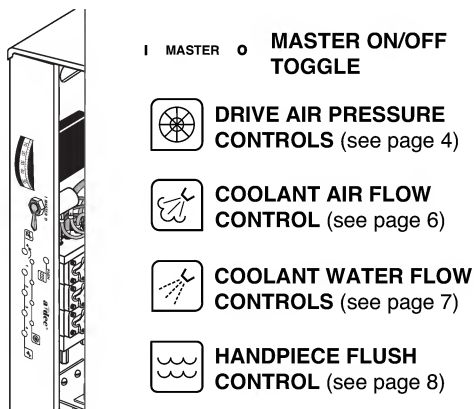

Figure 3. Handpiece Controls
- I MASTER O The **master on/off toggle** (see Figure 3) turns air, water, and electricity on or off to the system.
The drive air pressure controls (see *Figure 3 on page 3*) are used to adjust the drive air pressure to each handpiece.
The coolant air flow control (*see Figure 3 on page 3*) is used to adjust the coolant air flow to all handpieces.
2. Locate the coolant air control (*see Figure 3 on page 3*).
The coolant water flow controls are used to adjust the flow of coolant water to each handpiece (*see Figure 3 on page 3*).
2. Locate the coolant water flow controls (*see Figure 3 on page 3*).